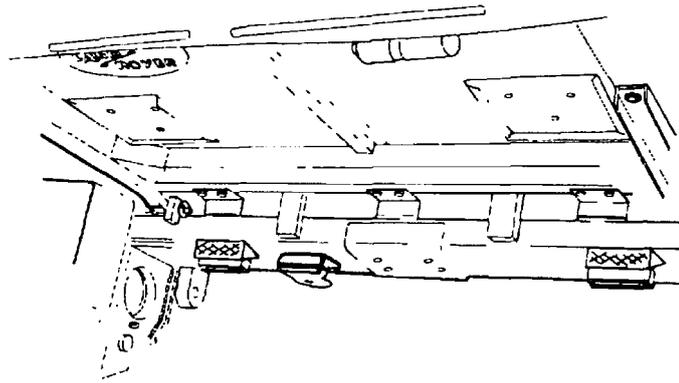

Figure 322 Rear Body Mountings
- ll. Remove the bolts securing the jerrican holders to the chassis and body and remove the bolts securing the body to the rear crossmember (Figure 322).
- b.** Insert the retaining bolts through the rear body mountings (Figure 322), ensure that the body is correctly aligned and securely tighten all of the body mounting bolts.